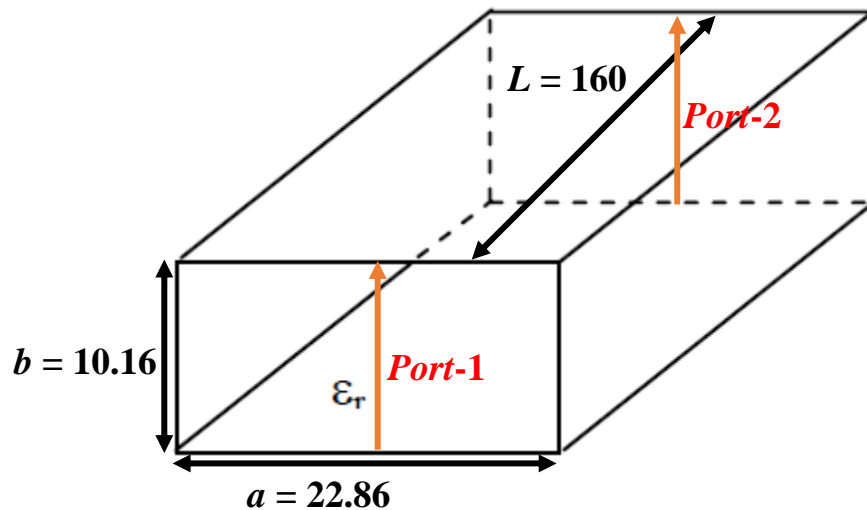

Fig. 1. Rectangular waveguide. Units are in mm.
- Using HFSS, simulate an air-filled WR-90 waveguide shown in Fig. 1.
1. Draw the rectangular waveguide based on the dimensions given in Fig. 1 and assign material as vacuum.